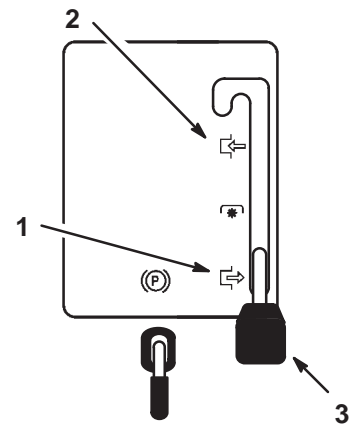

Figure 21
2. Move the PTO to Engaged (Fig. 21).
2. Move the PTO to Disengaged (Fig. 21).